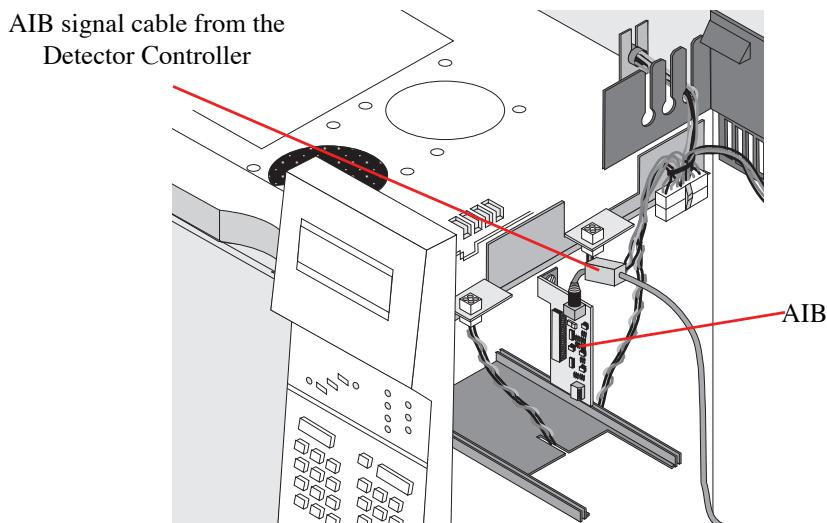
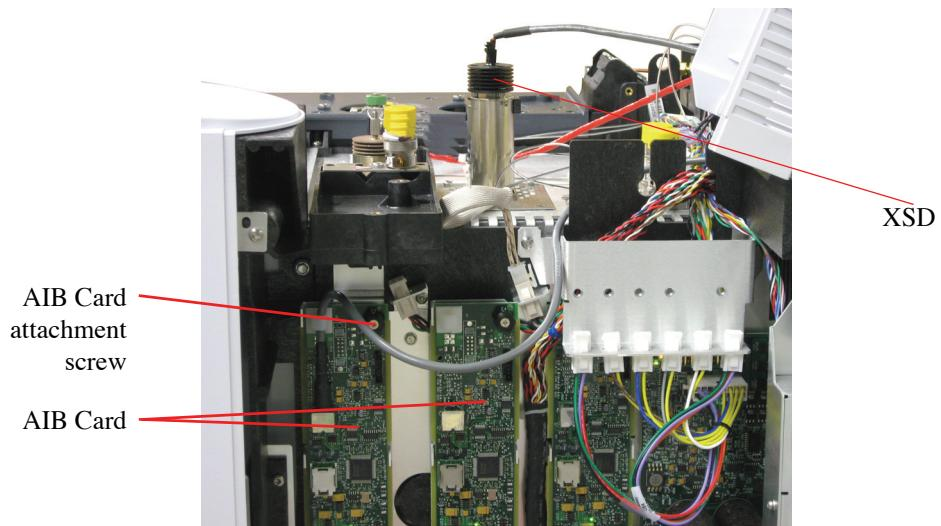

Figure 3.1. Placing the analog input board (AIB) in the Agilent 6890
Figure 3.2. Placing the analog input board (AIB) in the Agilent 7890
4. If present, remove the electrometer board corresponding to the selected detector port. Locate this board in the electronics compartment on the right side of the GC. In the same location, install the appropriate Agilent analog interface board (AIB) (refer to Figure 3.1 and Figure 3.2). For more information, see the *Agilent 7890 or 6890 Series Gas Chromatograph Operator's Manual*.